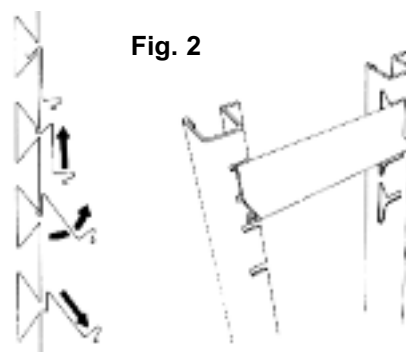

Fig. 2
**Interior:** Racking can be removed for easy cleaning (see Figure 2), cabinet interior should be cleaned regularly with warm soapy water and a soft cloth. Dry thoroughly afterwards and where possible remove all racking and shelving to aid the process.